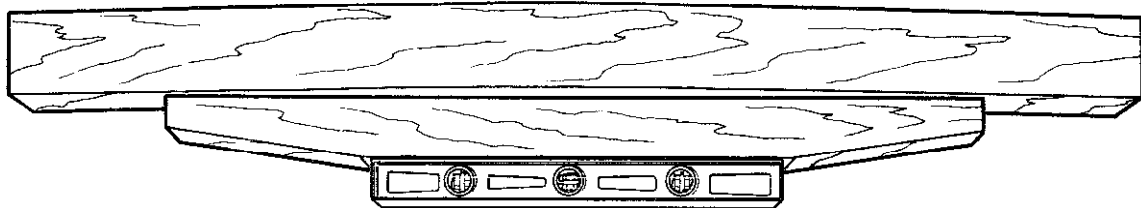

Fig. 5-6 Testing a crowned board with a straightedge and spirit level
4. To level or plumb a long surface, always use a straightedge with the spirit level. If the long surface is crowned, place the straightedge against the opposite or hollow side of the board. See figure 5-6.